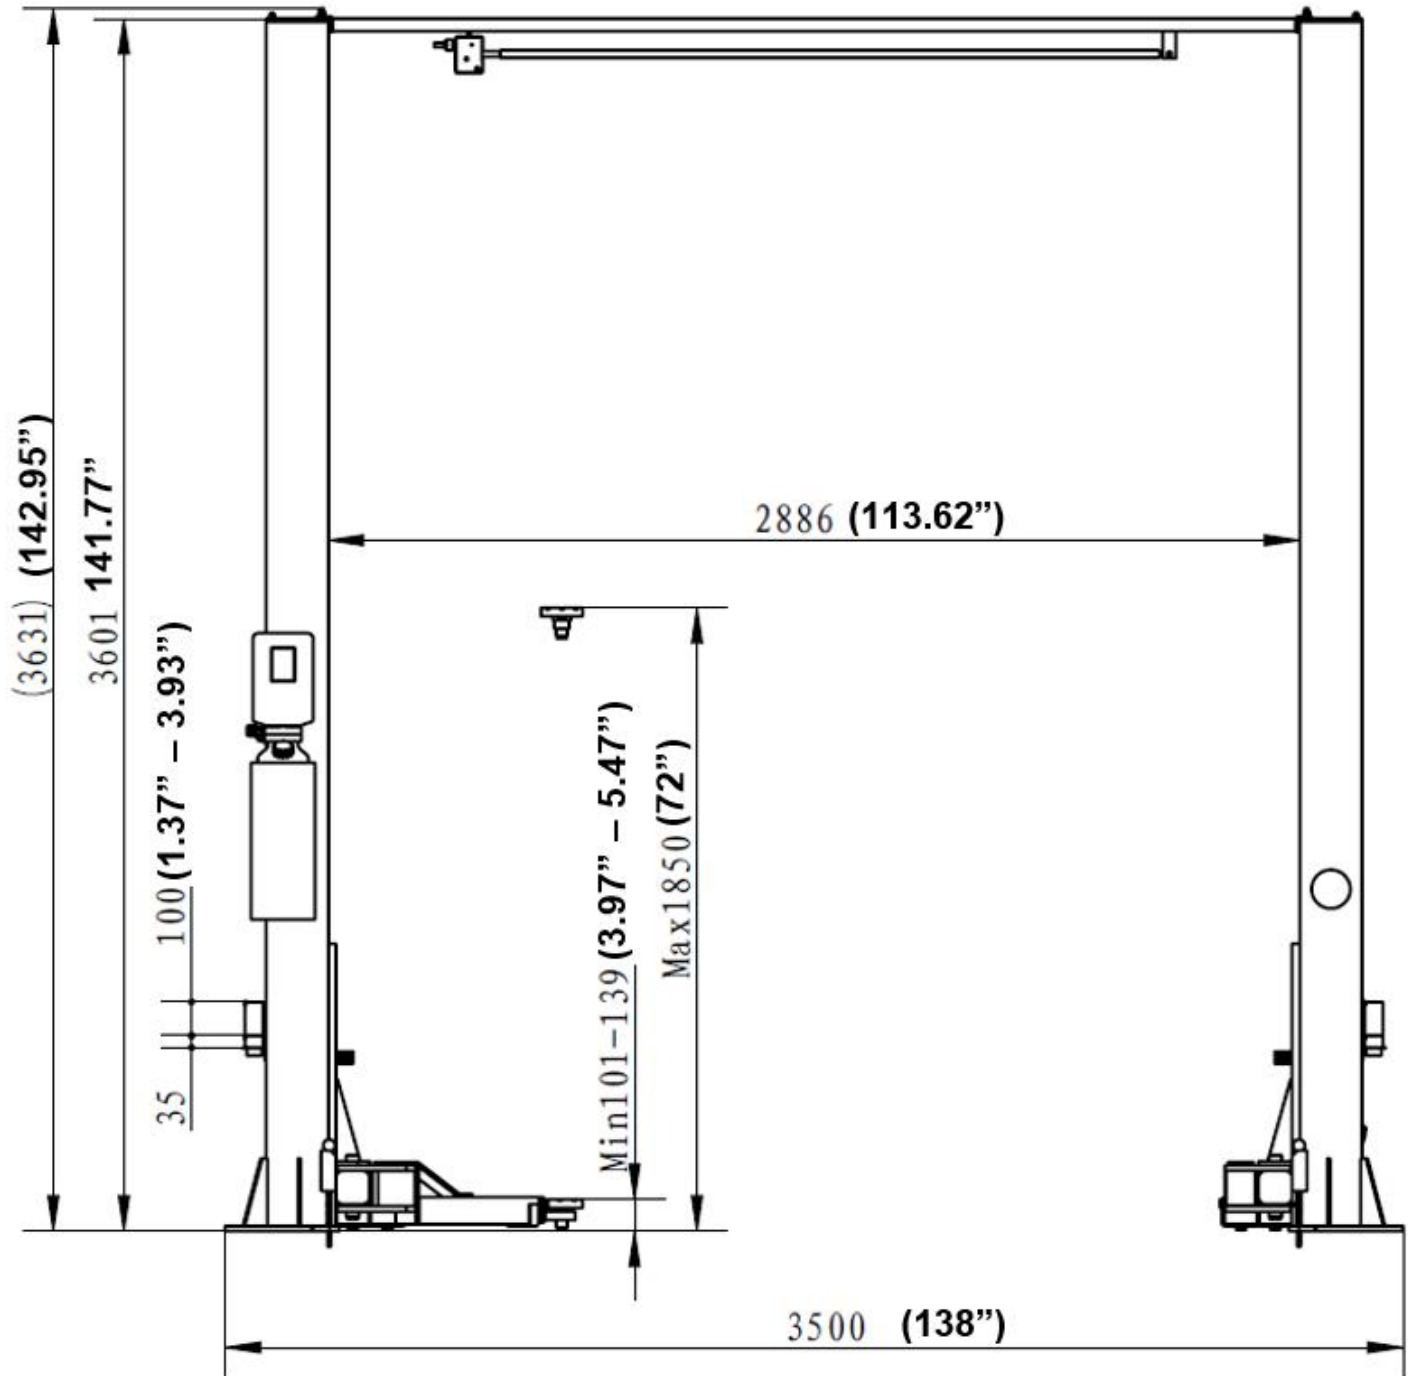
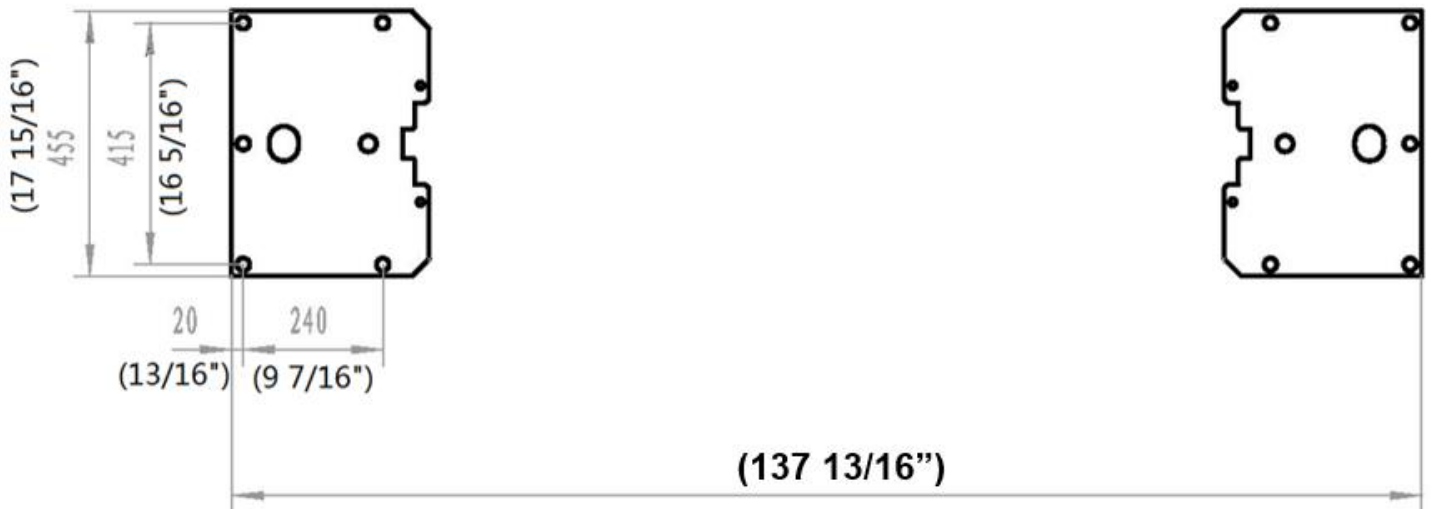

Fig. 2
Fig. 3
1. **LIFT LOCATION:** Always use architects plans when available. Check layout dimension against floor plan requirements making sure that adequate space is available (**Fig. 2, 2a, 2b & Fig. 3**).
2. **OVERHEAD OBSTRUCTIONS:** The area where the lift is located should be free of overhead obstructions such as heaters, building supports, electrical lines, etc. **(Fig 2.)**
3. Once a location is determined, use a carpenter's chalk line to layout a grid for the post locations. (See Fig. 3)